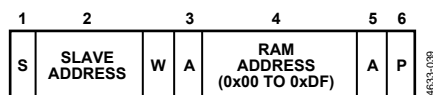

Figure 34. Setting a RAM Address for Subsequent Read
The SMBus specification defines several protocols for different types of read and write operations. The following abbreviations are used in Figure 34 to Figure 42:
- To write a register address to the RAM for a subsequent single byte read from the same address, or for a block read or a block write starting at that address, as shown in Figure 34.